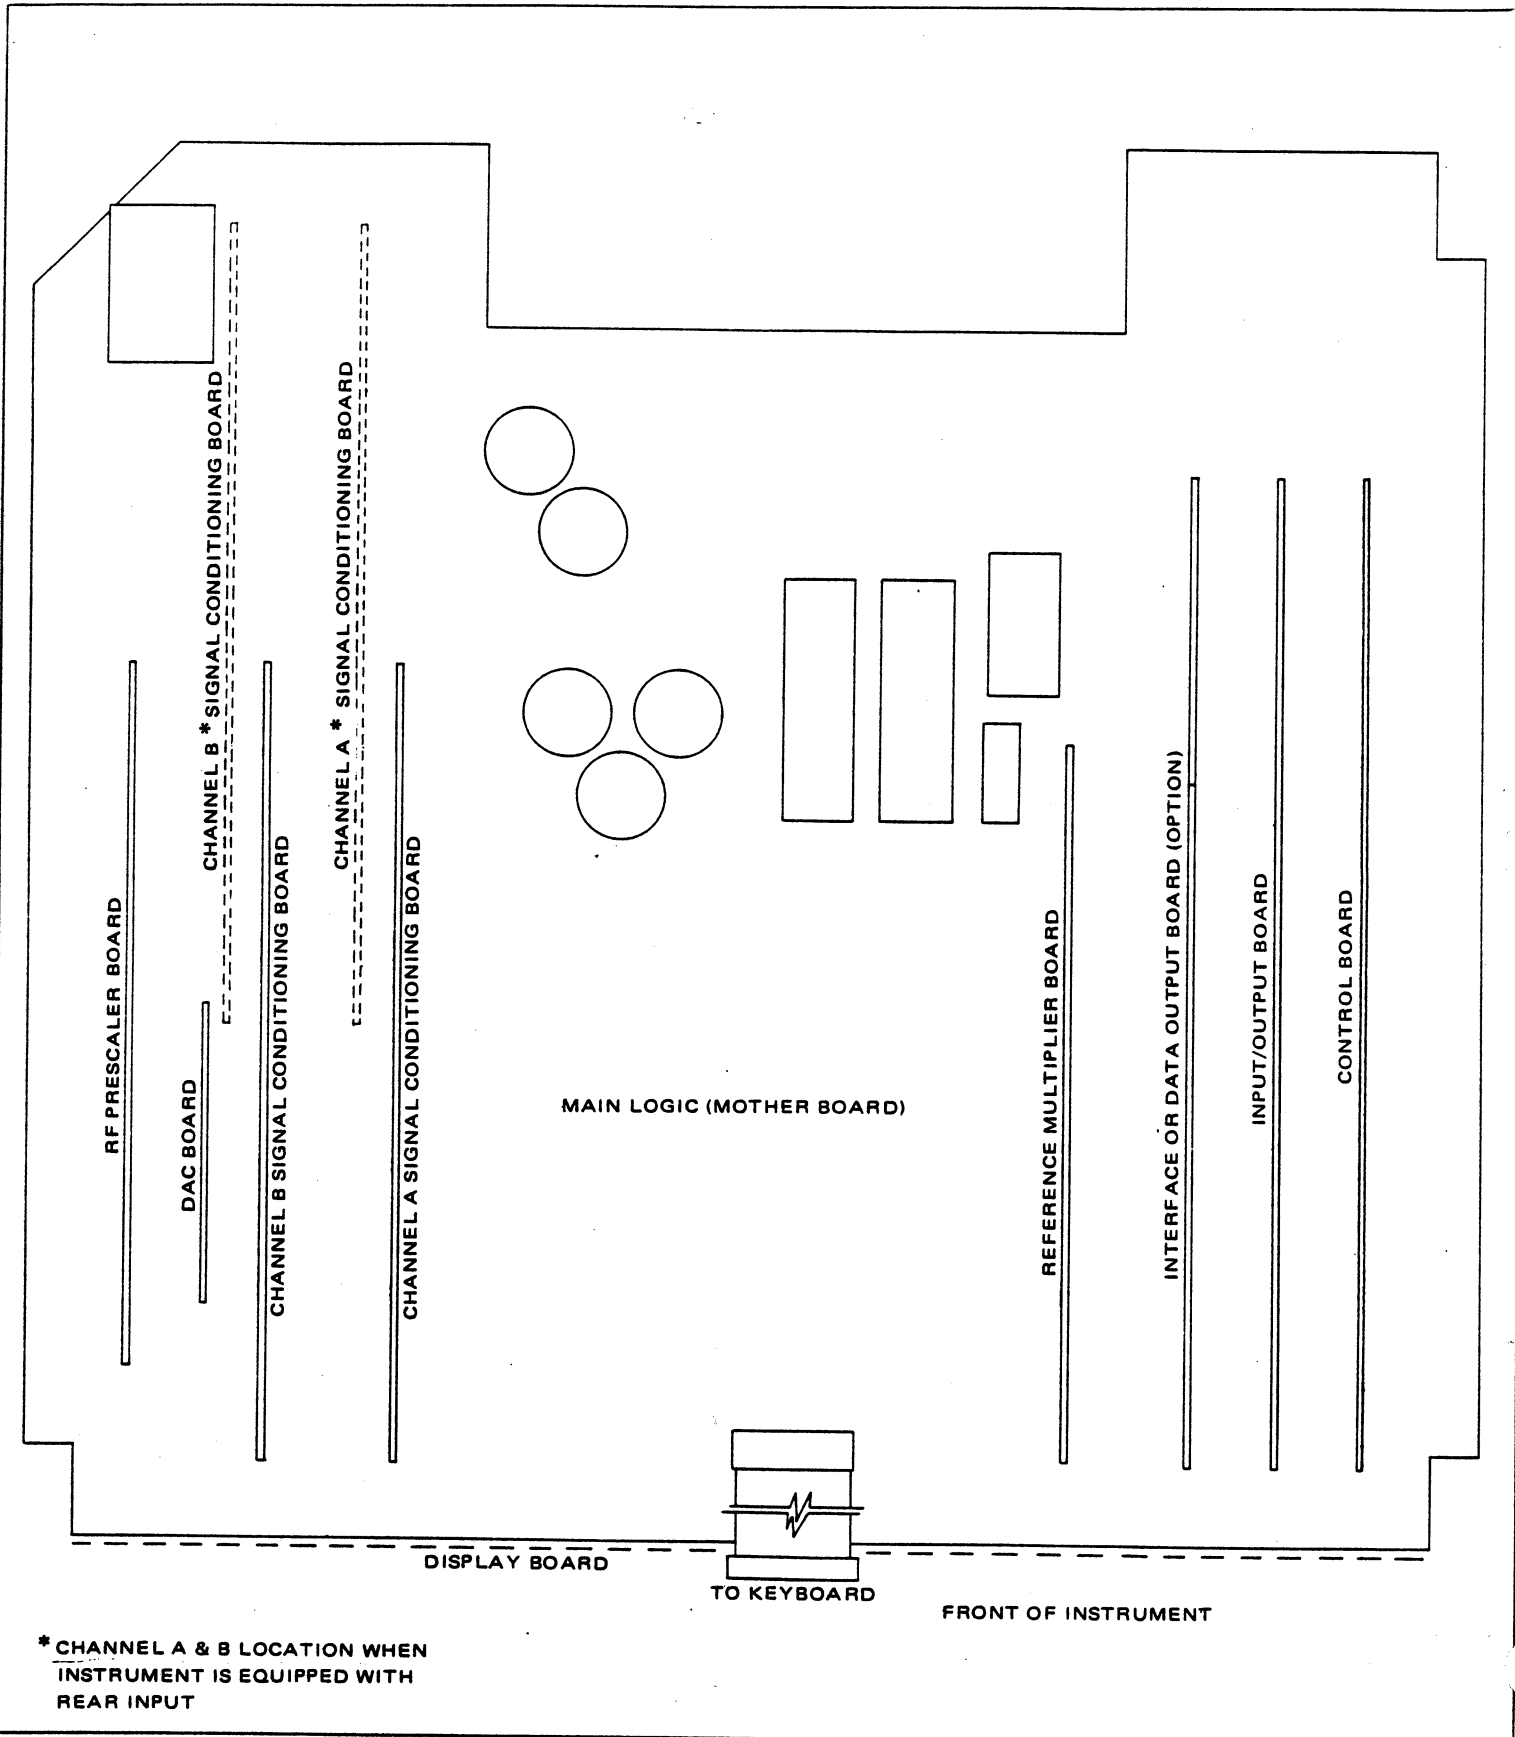

Figure 1.2 - Plug-In Board Locations
1.3.2 The standard instrument (figure 1.2) consists of the mainframe (mother board) with five plug-in boards and the display board. The mainframe is mounted next to the top cover of the instrument with the component side of the board facing down. On the board is mounted most of the logic components, the reference oscillator and the power supply. The plug-in boards plug into the mainframe and are between the mainframe and the bottom cover. The plug-in